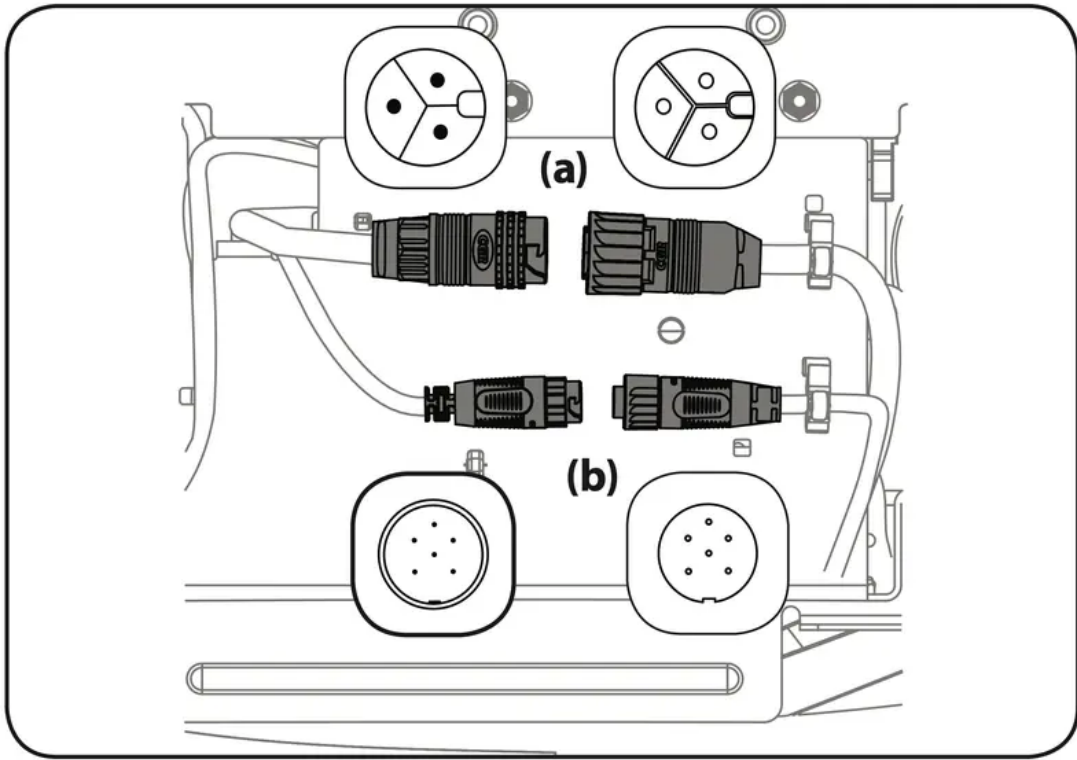
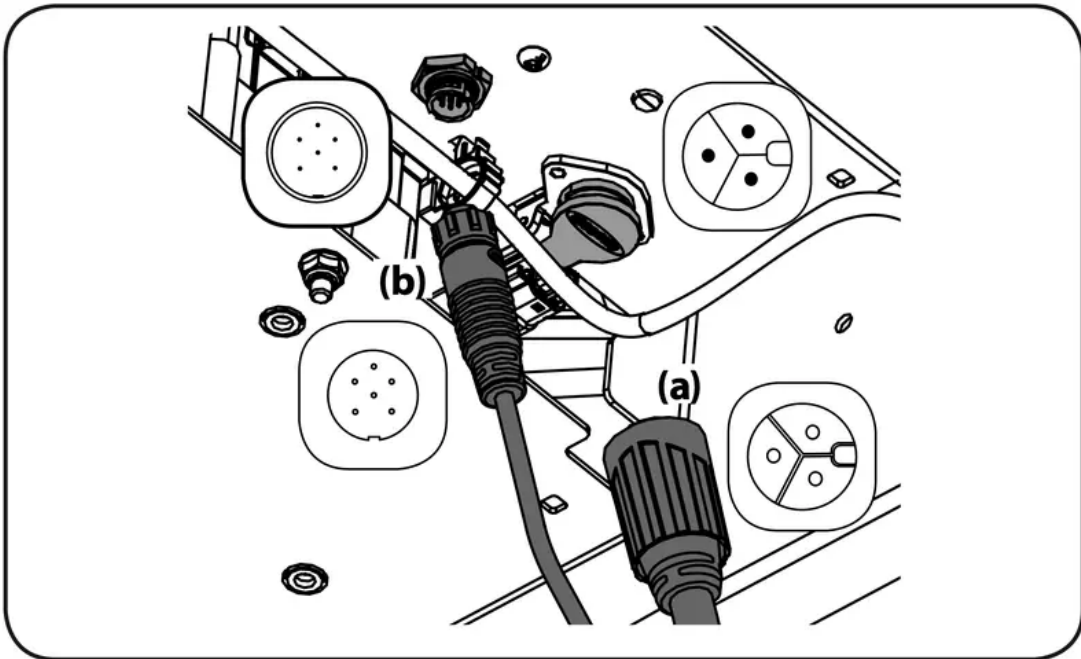

Figure 19
Figure 20
Note: Your mower may have one of two different deck motor connector setups. If your mower has horizontally positioned connectors, see Figure 19. If your mower has vertically positioned connectors, see Figure 20.
6. Reconnect the deck motors on the underside of the tractor. Always connect the larger connector first and then the smaller connector. See Figure 19.